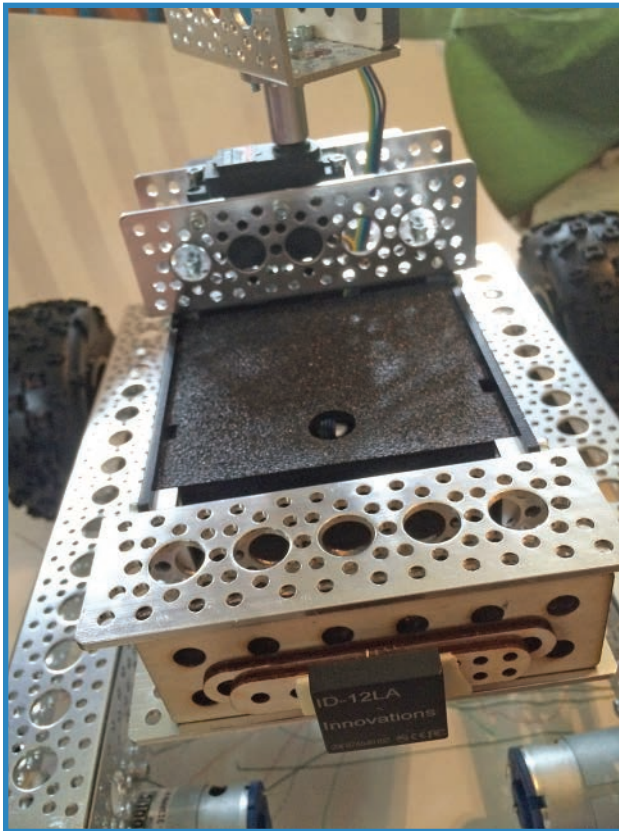

FIGURE 13.27 Attach the sensor to the rover.
- 18.** Stick the sensor to a piece of wood as you did with the other assembly. Figure 13.27 shows how it should look.